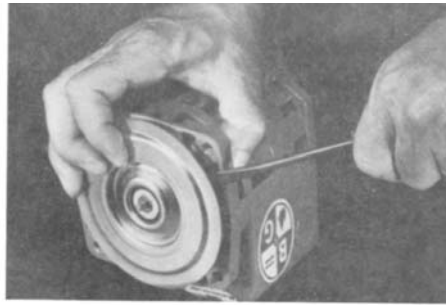

FIGURE 4
7. If replacing the ceramic seat (see fig. 4), gently pry the face plate away from the motor housing. Remove the damaged seat and boot from the faceplate. Install a new ceramic seat and boot in the recess of the faceplate. *Instructions supplied with repair kit.*